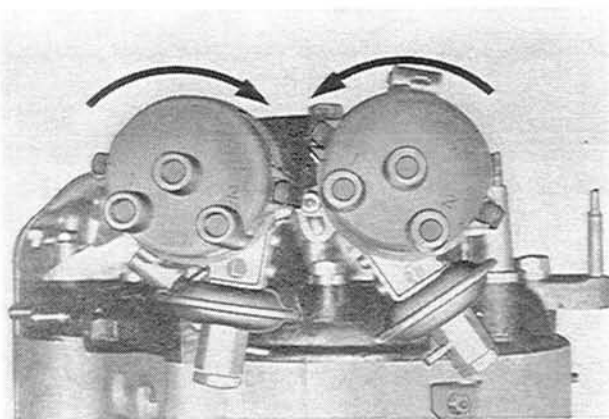

Fig. 1-103 Adjusting ignition timing
5. Turn the distributors as shown in Fig.1-103, until the contact point starts to open, Then tighten the lockplate.